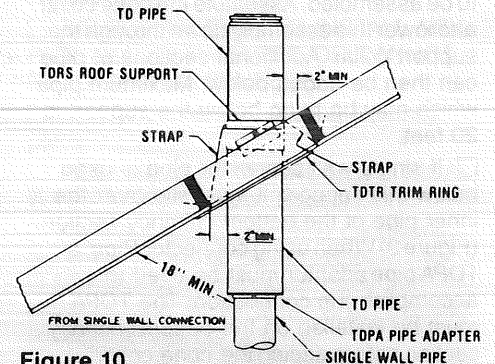

Figure 10
- Frame an opening in the roof as described in TDSC Section. The opening size is given in Table 1. For a flat roof the opening is square. The opening dimension of the slope will vary depending on the pitch of the roof. **BE SURE THERE IS A MINIMUM 2 INCH AIR SPACE AROUND CHIMNEY.** (Fig. 10)
**CAUTION: AN INSULATED SECTION OF CHIMNEY MUST PASS COMPLETELY THROUGH THE ROOF FRAMING TO PROVIDE AN 18 IN. CLEARANCE TO COMBUSTIBLE MATERIALS FROM THE SINGLE WALL CONNECTOR FOR CATHEDRAL CEILINGS.** (Fig. 10)